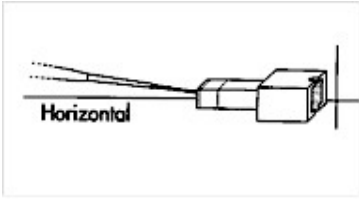

Figure 4
3. Hold the G-CAPSULE™ horizontally between your fingers and insert the provided pipette tip, until you reach the gel piece, then remove all the free TAE buffer from the G-PICK™ (Figure 4). Any buffer left in the G-PICK™ will be extracted with the eluted DNA and will result in a more dilute sample.